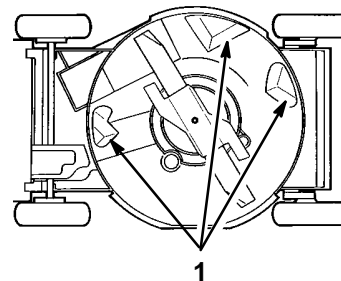

Figure 33
To ensure best performance, keep the underside of the mower housing clean. Be especially careful to keep the kickers free of debris (Fig. 33).
3. Tip the mower on its left side (Fig. 33).